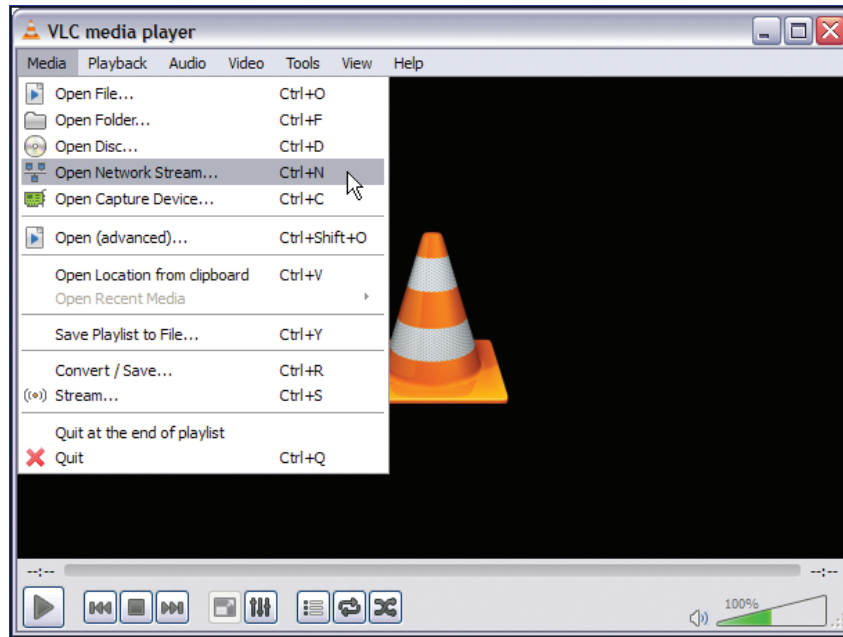

Figure 81. VLC Media Player — Open a Network Stream
3. Select **Media > Open Network Stream** (see figure 81 on page 104).